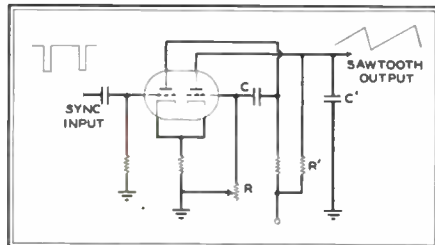

FIG. 62. Another CR relaxation oscillator, employing the high-frequency Potter oscillator type of circuit
The type of relaxation oscillator which was discussed in the last section is used to generate sawtooth potential waves. This type is generally referred to as the capacitance-resistance (CR) type of relaxation oscillator, of which the multivibrator, the van der Pol, the blocking oscillator, and the Potter oscillator are examples. Figs. 62 and 63 illustrate the two latter circuits. The time-determining circuits are defined by the magnitude of C and R , and the output waveform is defined by the magnitude of C' and R' . R'' may be introduced to include a pulse component in the output sawtooth wave.
circuits in general, whether of the current-relaxation type under discussion in the previous section, or whether the grid of the power tube (utilized as an amplifier) is driven by a waveform similar to either of the output waves shown in Fig. 62 as generated by a CR-type of relaxation oscillator.